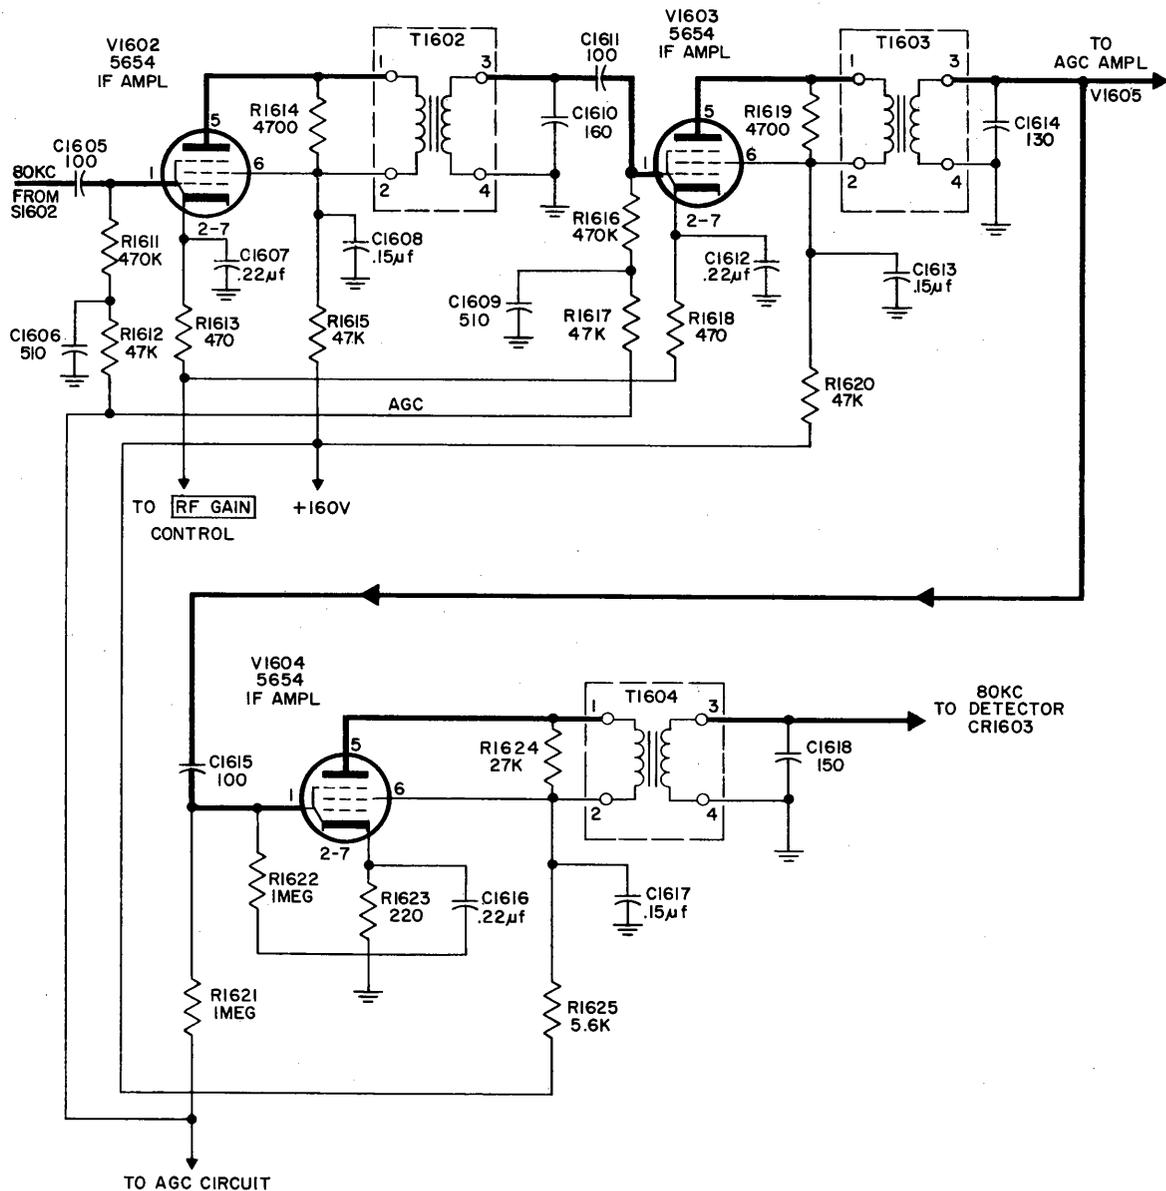
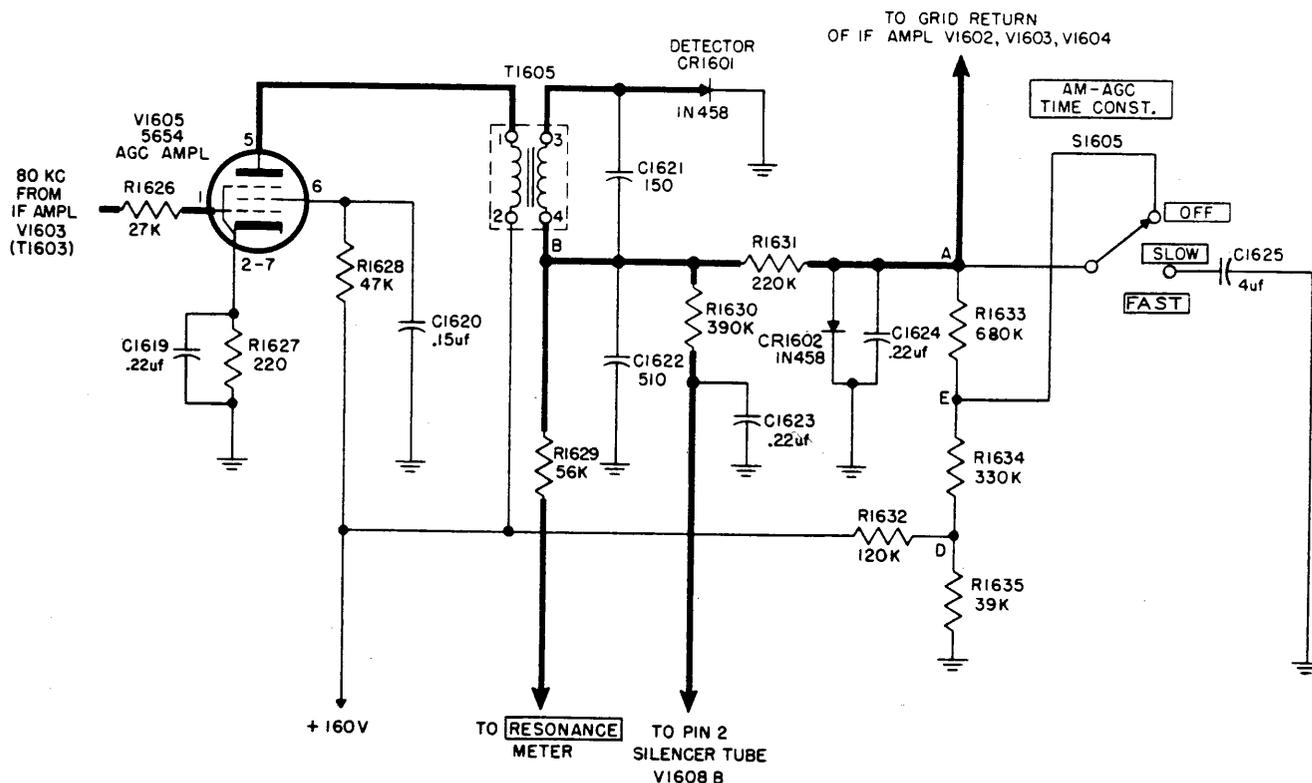

Figure 4-19. IF Amplifiers V1602, V1603, and V1604, Simplified Schematic Diagram
Figure 4-20. Automatic Gain Control Circuit of AM Detector-Amplifier, Simplified Schematic Diagram
Figure 4-19 shows the signal from the selected band-pass filter applied to V1602 through C1605. The output of V1602 is developed across IF transformer T1602 and applied to IF amplifier V1603 via C1611. The gain of V1602 and V1603 is governed by the R.F. GAIN control. The output of V1603 is developed across T1603 and applied to IF amplifier V1604 through C1615. A portion of this signal at T1603 is applied also to the AGC circuit. V1604 develops its output across T1604 and applies it to the detector stage (subpar. c). An AGC voltage is applied to the control grids of amplifiers V1602, V1603, and V1604 to maintain control of the output signal amplitude. The development of this AGC voltage is described in subparagraph *b* below.
b. AUTOMATIC GAIN CONTROL CIRCUIT. (See figure 4-20)—An 80 kc IF signal taken from pin 3 of the secondary of interstage transformer T1603 (figure 4-19) is applied to the grid of AGC amplifier V1605. The amplified output of V1605 is developed at IF trans-
(A3) reception, cuts off receiver output when no signal is being received. The grid of silencer tube V1608B has two voltage sources—one, negative, from point B of the AGC circuit (figure 4-20) the other, positive, from potentiometer R1664, which is part of a voltage divider between regulated +105v and ground. Rotating the SILENCER control (upper demodulator panel) clockwise from its OFF position connects the cathode of V1608B to ground and simultaneously taps the voltage-divider network for a positive voltage to the grid of V1608B. If there is no signal at the receiver, the AGC circuit, being dependent for operation on an incoming signal, remains inactive. This makes the receiver extremely sensitive, permitting locally generated random noise and external interference to appear at the receiver output. With AGC inactive, the only voltage impressed on the grid of V1608B is that from voltage divider R1664. This makes the grid positive with respect to its cathode, resulting in a plate current sufficient to energize the coil of relay K1601, which is located in the plate circuit of V1608B. The plate current closes the normally open armature of K1601, grounding the input of the second AF amplifier (V1607) and preventing any signal from reaching the receiver output.